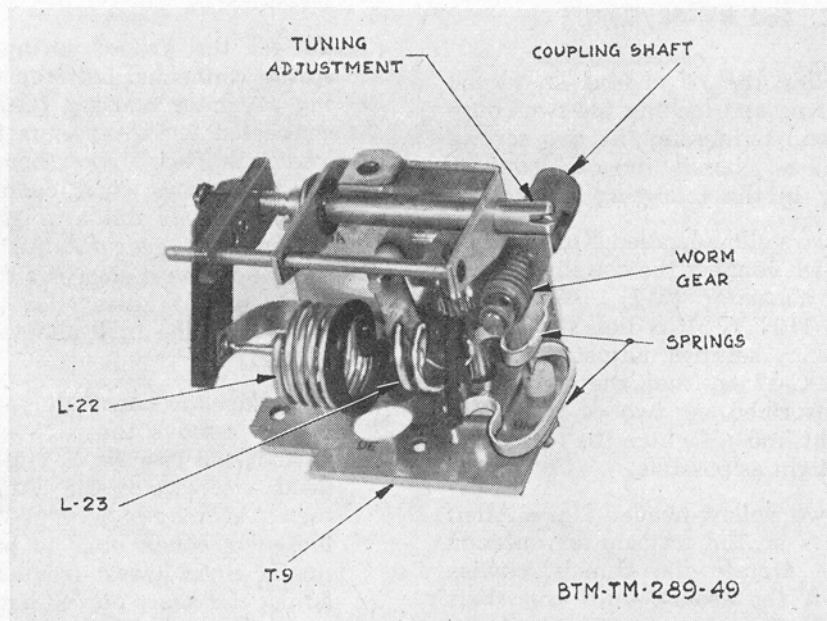

Figure 49. Transmitter antenna coupling assembly.
- (8) The antenna coupling coil and associated components are mounted as a subassembly at the front end of the r-f coil assembly. To replace this subassembly, proceed as follows :
- (f) Lift the subassembly away from the chassis (fig. 49).
- (1) Turn the unit, wiring side up, and remove the r-f compartment cover.
- (2) Remove the r-f compartment parts as described in d above.
- (3) Unsolder all the leads from the capacitor lugs projecting through holes in the chassis plate into the r-f coil compartment.
- (4) Turn the unit component side up.
- (5) Remove the two screws at the front end of the capacitor and the one screw at the rear of the capacitor which hold capacitor C-1 to the chassis.
- (6) Lift the capacitor off the chassis.
- (7) If the capacitor is to be replaced, remove the crown coupling and bellows by loosening the setscrews on the coupling collar, using an Allen wrench.